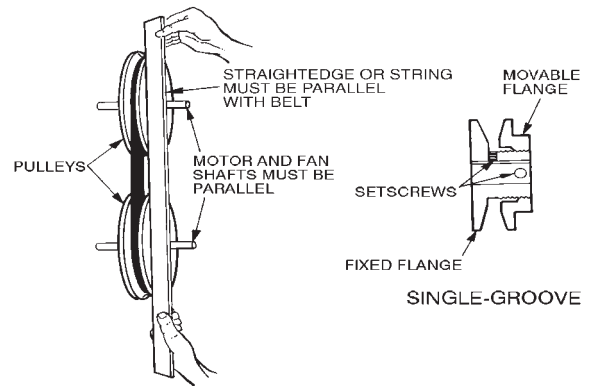

Fig. 41 – Evaporator-Fan Pulley Adjustment
3. Loosen movable pulley flange setscrew (See Fig. 41).